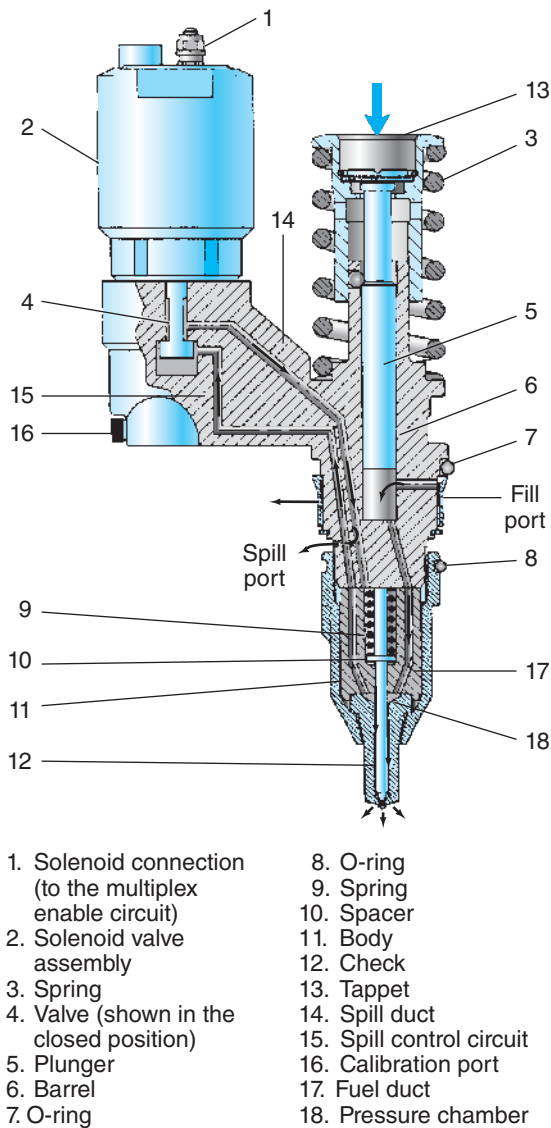

Figure 14-10 Single actuator EUI.
Single Actuator EUI. Single actuator EUIs, like that shown in **Figure 14-10**, utilize a normally open spill valve (4) which is closed when an electric current flows through the solenoid valve assembly (2). The ECM injector drivers (FETs) supply the control current for the solenoid valve assembly. Alternately, some OEMs utilize a separate injector drive module to supply this current.